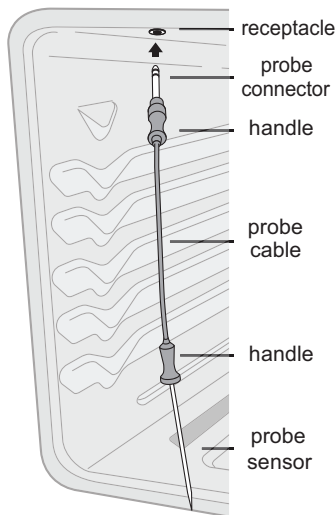

Figure 16: Using the meat probe
Do not use kitchen utensils to pull on the probe cable or handles. Always insert and remove the meat probe using the provided handles, as shown in Figure 16, and always use a pot holder to protect hands from possible burns.
2. Plug the connector end of the probe all the way into the probe receptacle while the oven is still cool. The receptacle is located on the upper left front oven cavity wall (See Figure 16). Close oven door.